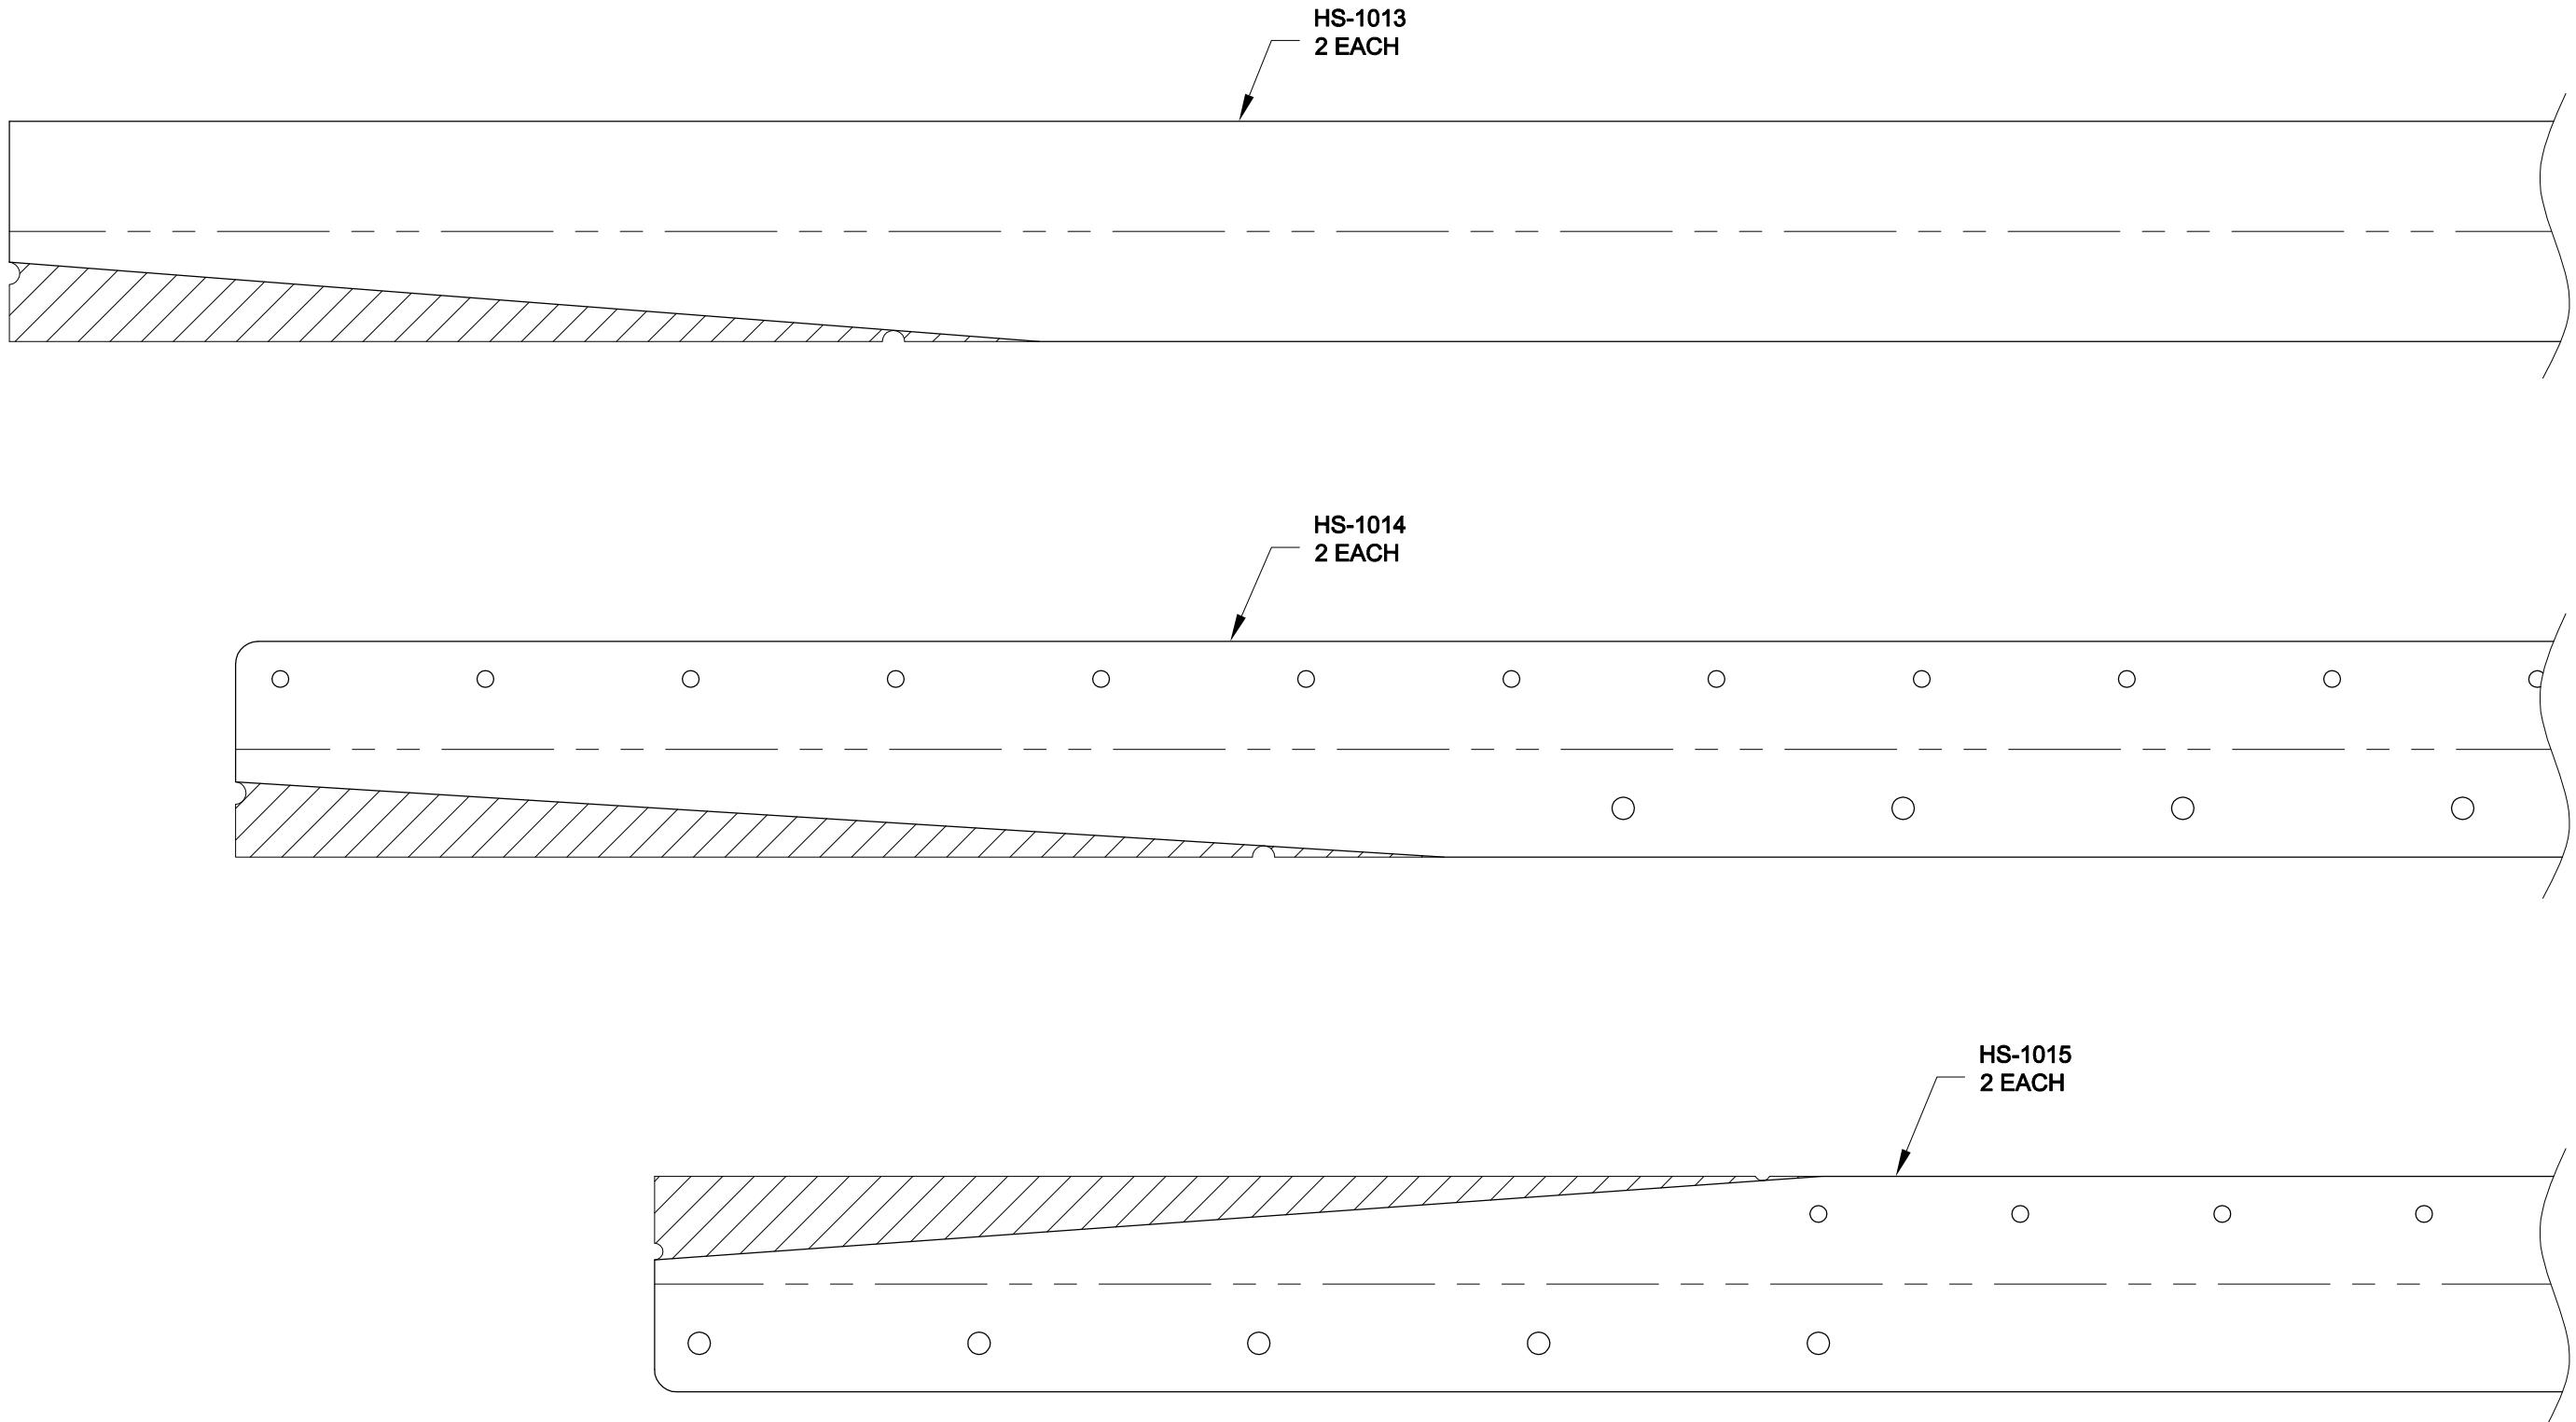

FIGURE 1: SPAR CAP AND STRINGER TRIM
Step 1: Trim material (shaded areas) from both ends of the two HS-1013 Front Spar Caps, the HS-1014 Long Stringer, and the HS-1015 Short Stringer as shown in Figure 1. The parts are shown unbent in the figure for clarity. Use the notches in the parts to determine the trim line and note in the figure that the trim line completely removes the notches.